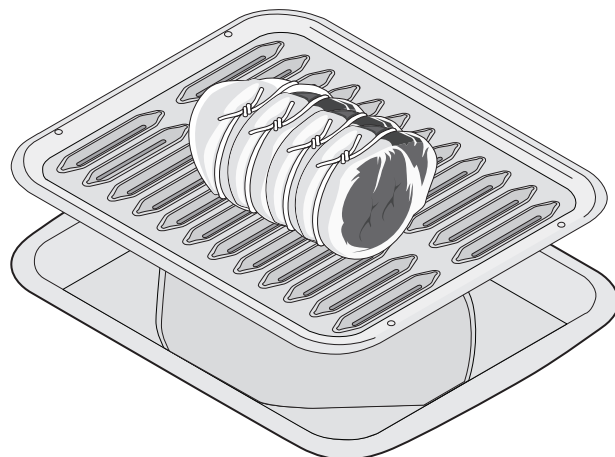

Fig. 51 Broil pan and insert for convection roast
4. Place meat (fat side up) on insert (Figure 51). Place prepared food on oven rack and slide into oven.